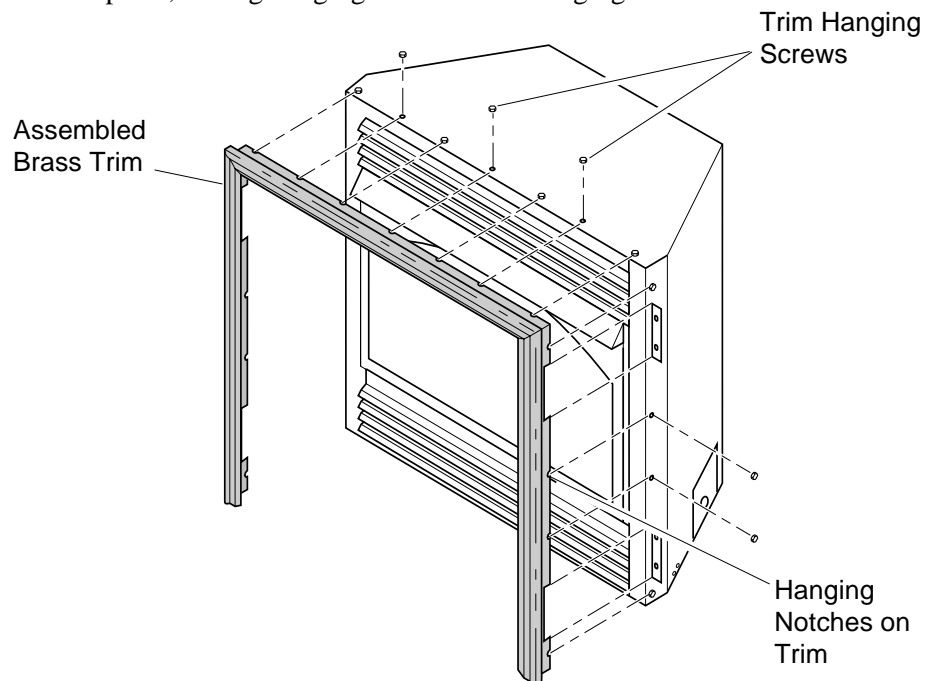

Figure 6 - Attaching Brass Trim to Fireplace
8. Tighten trim hanging screws (#10 x 6.25 shoulder) into holes in cabinets. Place the assembled trim onto fireplace cabinet. Align hanging notches on trim with hanging screws on side of fireplace (see Figure 6). Push trim firmly into place, sliding hanging notches over hanging screws.
10. Install brass trim (see Figure 6, page 10) after final finishing and/or painting of wall.